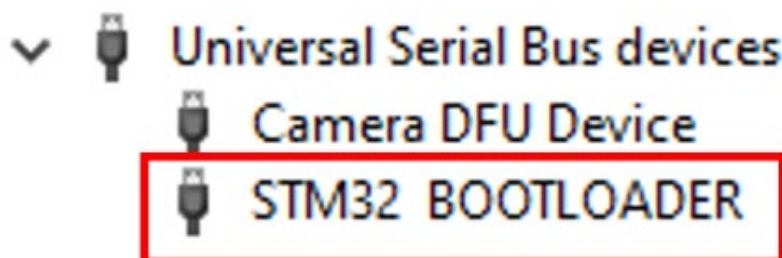

Figure 16: Sensor Board in bootloader mode found in the device manager on a Windows PC
- If the DFU driver is installed on a Windows PC you should look in the device manager as shown in Figure 16.